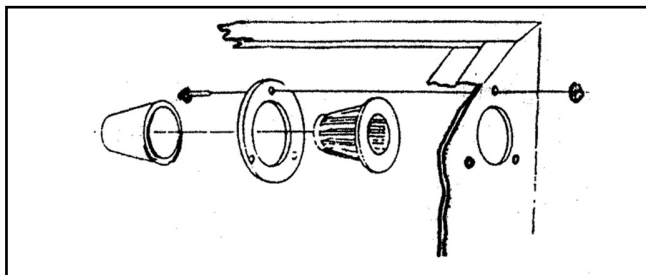

Figure 3. Filter installation.
3. Install the filter assembly with the screws and nuts (Figure 3).